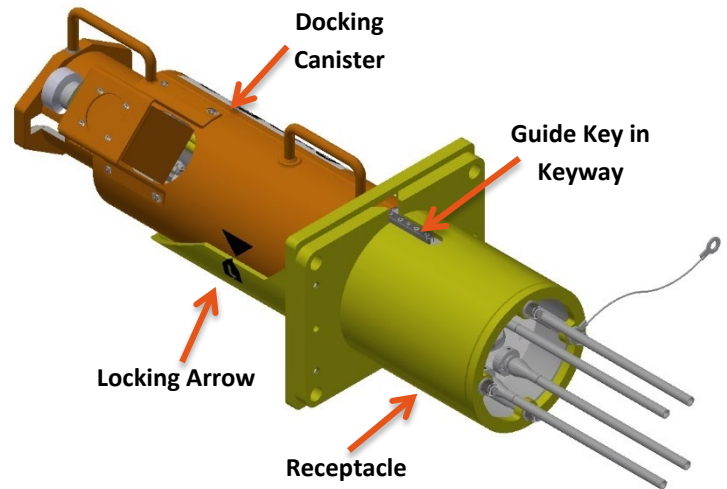
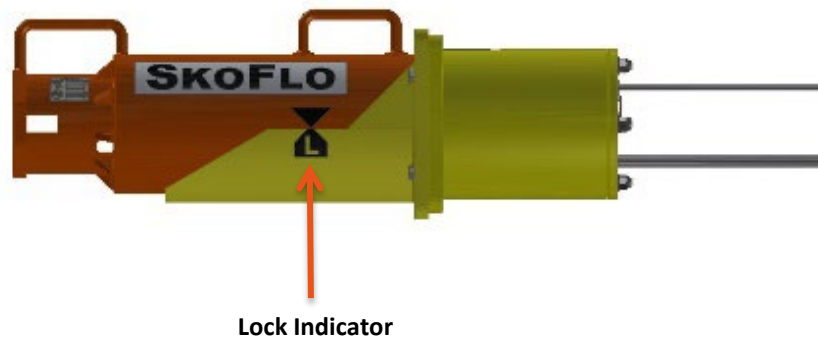
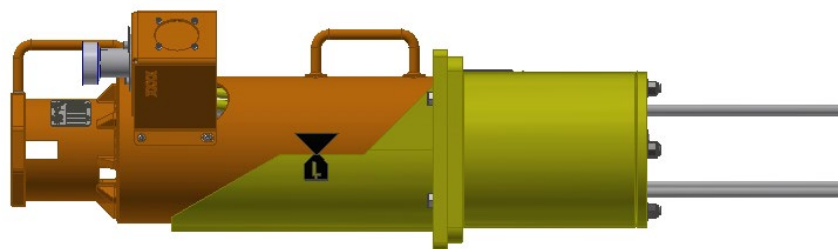

Figure 49: Horizontal ROV Unit Docked
Figure 50: Locking Indicator for Horizontal CIMV Stab Installation
Figure 51: Locking Indicator for Horizontal CIMV ROV Installation
- 17.6.12.1 For horizontal stab and ROV installations, ensure that the total number of turns are in compliance with Table 4 and that the locking indicator arrows are aligned. Refer to Figure 49, Figure 50, and Figure 51.
- 17.6.13 For horizontal installation only, ensure the lock indicator (if applicable) is aligned after complete docking as shown in Figure 50.